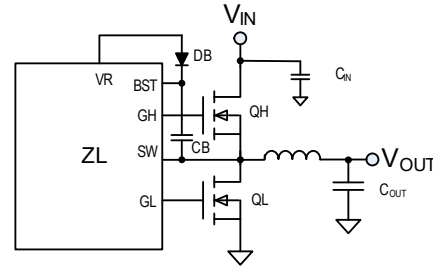

FIGURE 5. SYNCHRONOUS BUCK CONVERTER
Figure 5 illustrates the basic synchronous buck converter topology showing the primary power train components. This converter is also called a step-down converter, as the output voltage must always be lower than the input voltage. In its most simple configuration, the ZL6105 requires two external N-channel power MOSFETs, one for the top control MOSFET (QH) and one for the bottom synchronous MOSFET (QL). The amount of time that QH is on as a fraction of the total switching period is known as the duty cycle *D*, which is described by Equation 1:
The gate drive voltage for the high-side MOSFET driver is generated by a floating bootstrap capacitor, CB (see Figure 5). When the lower MOSFET (QL) is turned on, the SW node is pulled to ground and the capacitor is charged from the internal VR bias regulator through diode DB. When QL turns off and the upper MOSFET (QH) turns on, the SW node is pulled up to V_{DD} and the voltage on the bootstrap capacitor is boosted approximately 5V above V_{DD} to provide the necessary voltage to power the high-side driver. A Schottky diode should be used for DB to help maximize the high-side drive supply voltage.